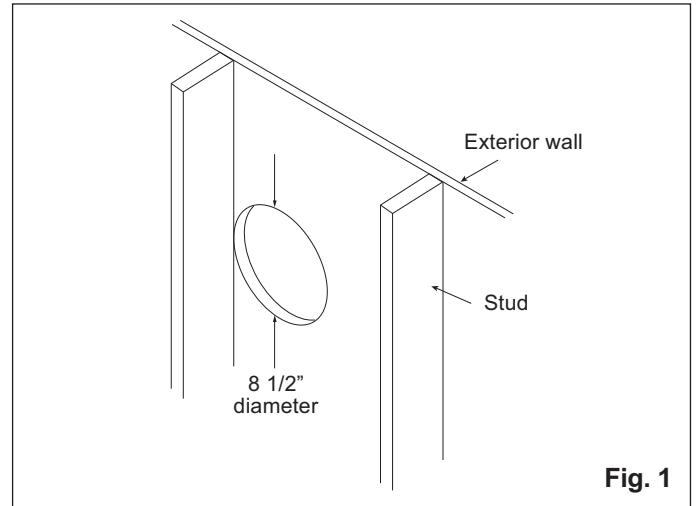

Fig. 1
1. Cut a 215 mm (8 1/2") diameter hole in the wall. (Fig. 1)